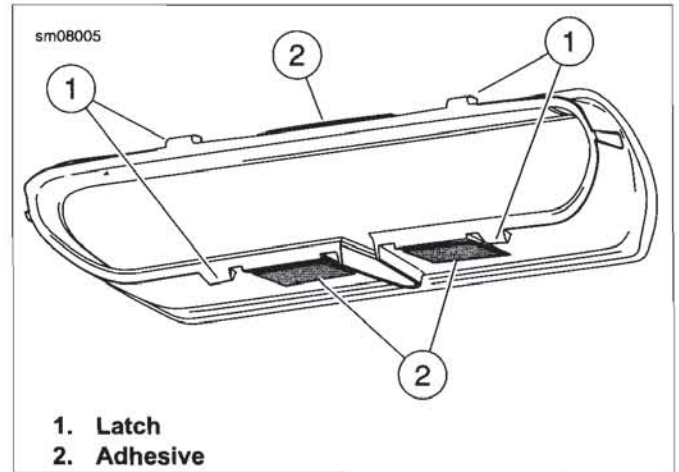

Figure 2-152. Outer Fairing Vent Bezel
2. See Figure 2-152. From inside fairing, use a putty knife to release adhesive (2) in three places.
3. Release latches (1). Remove bezel.